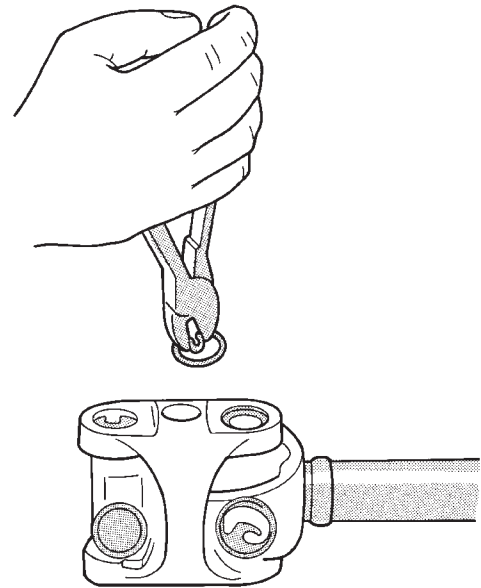

Fig. 22 Remove Snap Rings
- (1) Remove the propeller shaft.
- (2) Using a soft drift, tap the outside of the bearing cap assembly to loosen snap ring.
- (3) Remove all the bearing cap snap rings (Fig. 22).
- (4) Set the joint in an arbor press or vise with a socket whose inside diameter is large enough to receive the bearing cap positioned beneath the link yoke.
- (5) Place a socket with an outside diameter smaller than the upper bearing cap on the upper bearing cap and partially press one bearing cap from